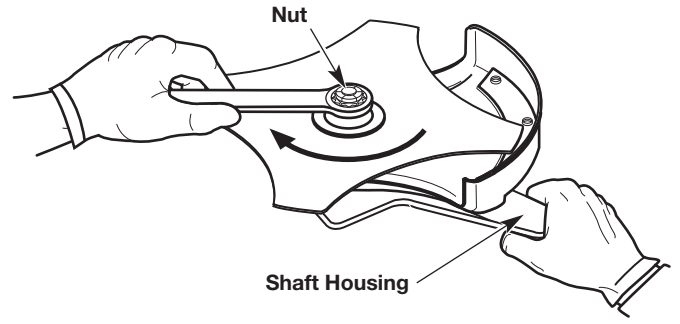

Fig. 15
3. Hold the locking rod in place by grasping the other end against the shaft housing (Fig. 15).
4. While holding the locking rod in place, unscrew the nut by turning it clockwise with a wrench (Fig. 15).